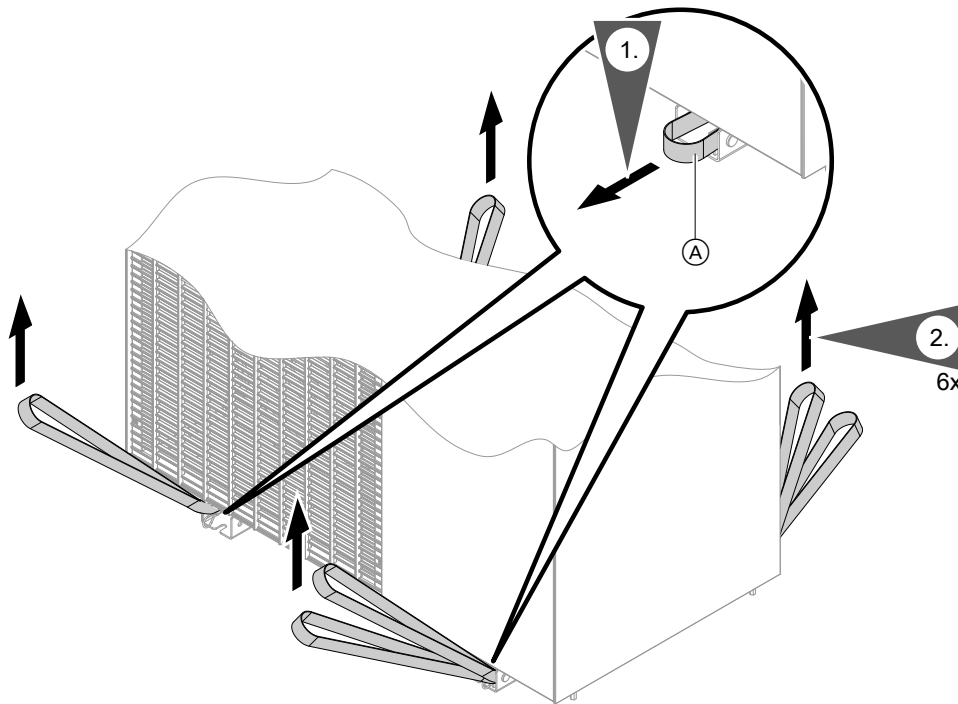

Fig. 5
- Due to the uneven weight distribution, there are 4 transport aids attached to the right-hand mounting rail for outdoor units with 2 fans: See Fig. 5.